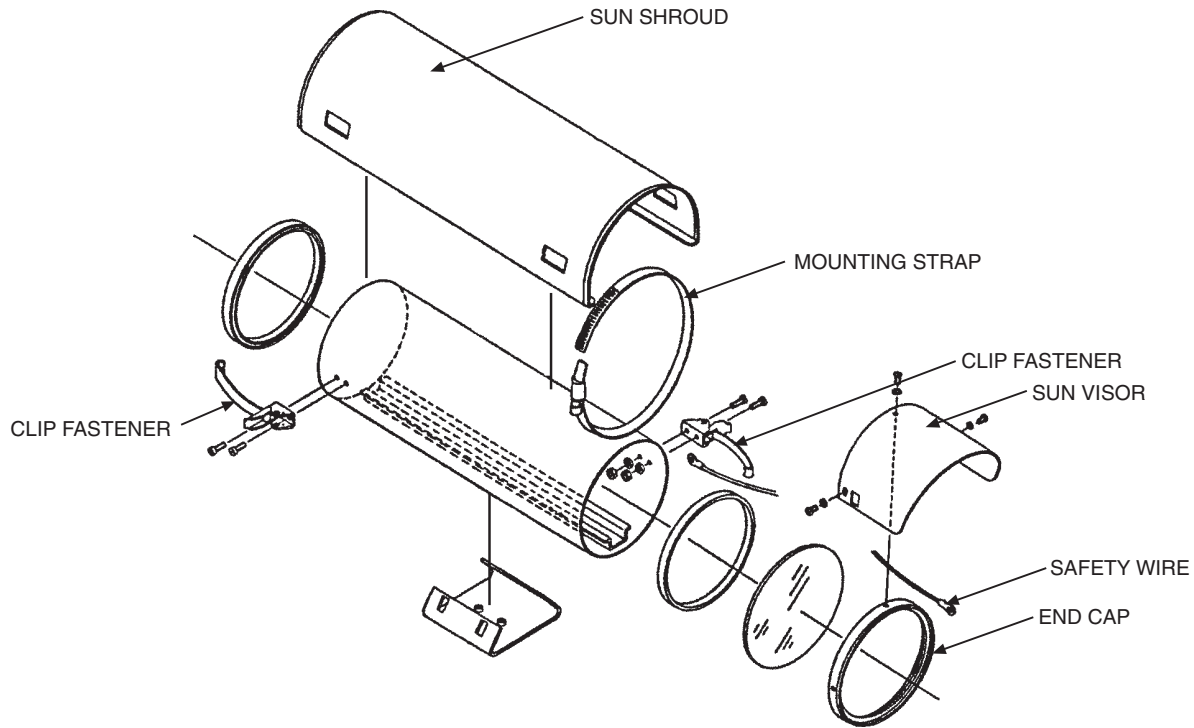

Figure 1. Sun Visor/Shroud Installation
1. Remove the end cap from the front of the enclosure and detach the safety wire from the end cap (see Figure 1).
1. Insert the mounting straps through the holes inside the roof of the sun shroud (see Figure 1).